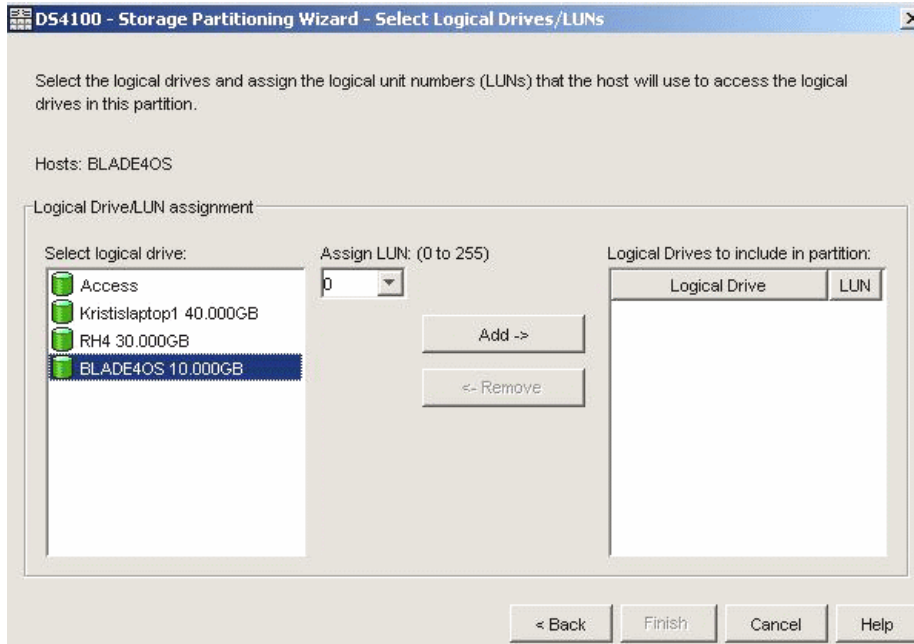

Figure 9-57 Storage Partitioning Wizard - Select Logical Drives/LUNs window
26. In this step, we will select the Host we have created for our configuration. First, select **Host** and then select **BLADE40S**. Click **Next**. You will see a window similar to Figure 9-57 on page 323.